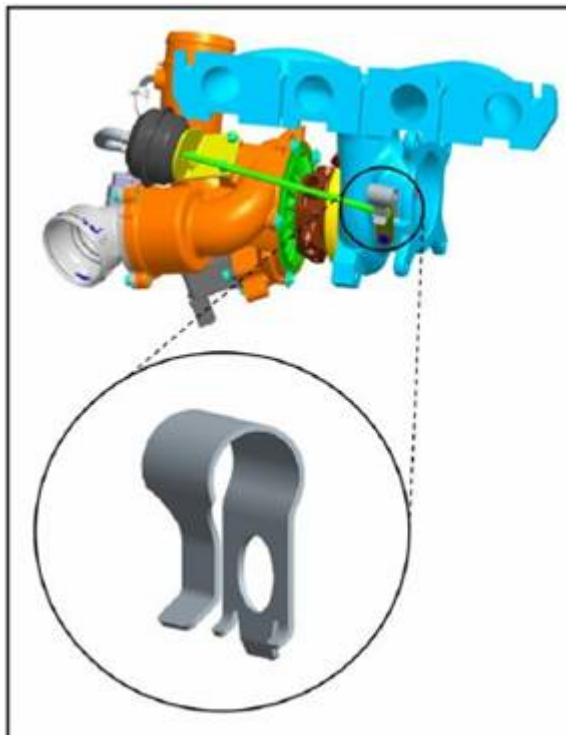

Figure 2
- Attach tension clip as shown in figures 2, 3, 4, 5 and 6.